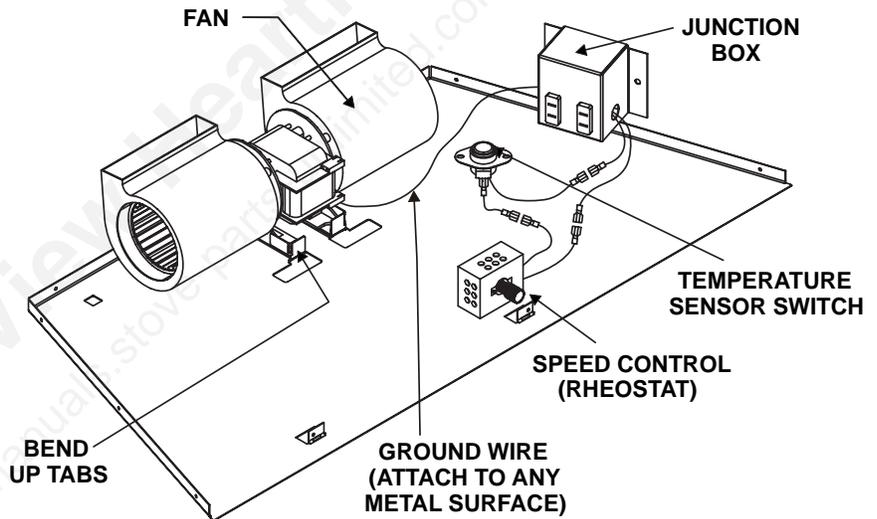

Figure 9.4 Fan Wiring Diagram
- Bend up the tabs on the base pan (see Figure 9.4).